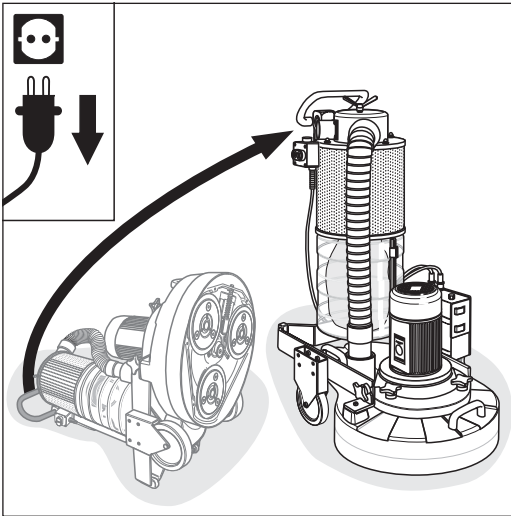

Fig. 86 Bring the machine back into vertical position.
- 3 Bring the machine back into vertical position (fig. 86).